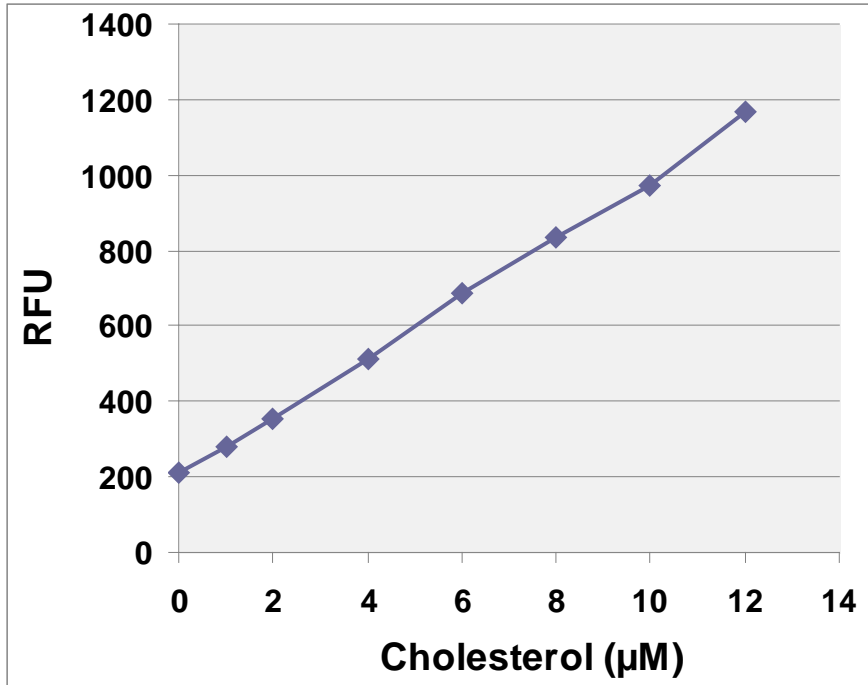

Figure 3: Cholesterol standard curve.
2. Plot the corrected fluorescence for the standards against the final concentration of the cholesterol standards from Table 1 to determine the best curve. See Figure 3 for an example standard curve.